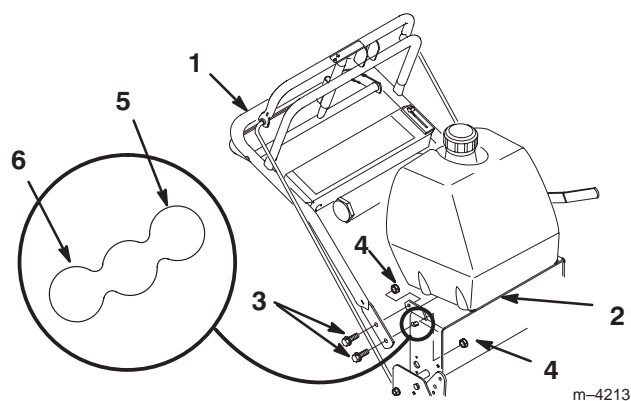

Figure 2
1. Position handle outside frame and align mounting holes. Select desired lower mounting holes for high, medium or low position according to operators height (Fig. 2).
2. Secure each side with (2) 3/8-16 x 26mm (1") bolts and (2) 3/8-16 locknuts (Fig. 2).